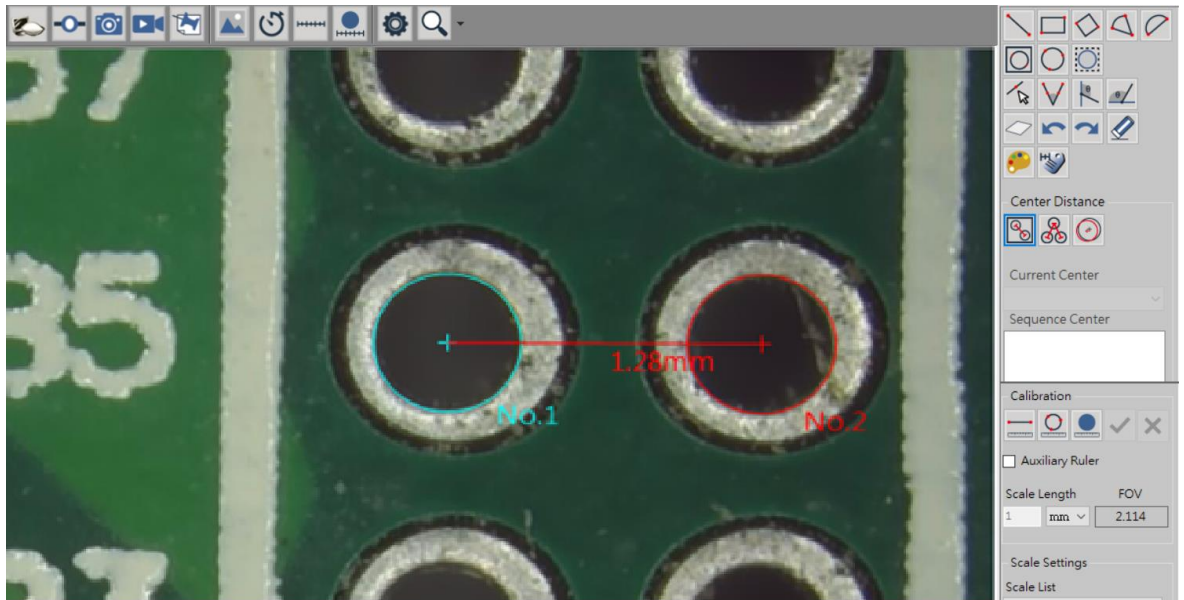

Fig 5-11 Two Center Distance
- Two Center Distance : This function will auto-calculate the distance from two circle's center. Two Circles is required to draw on same page. See Fig 5-11.